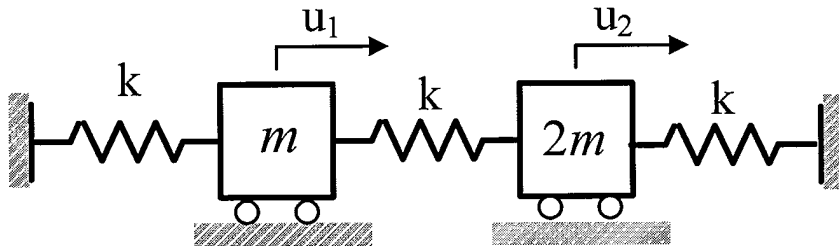
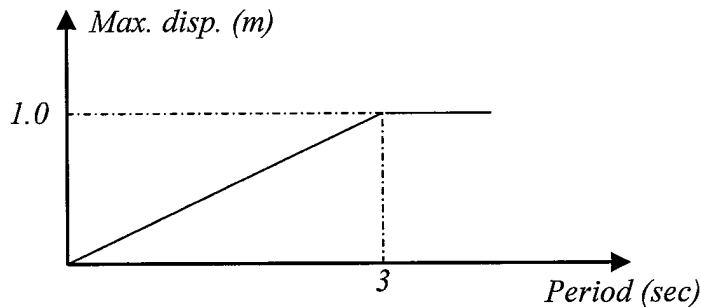

Fig. 3a
Fig. 3b
3. Please find the max. displacements (u_1 and u_2) of the system (Fig. 3a) under the earthquake design-response-spectrum as shown in Fig. 3b. Solve this problem by using the square-root-of-sum-of-squares rule. (Given $m = 20$ Ton and $k = 100$ kN/m) (50%)